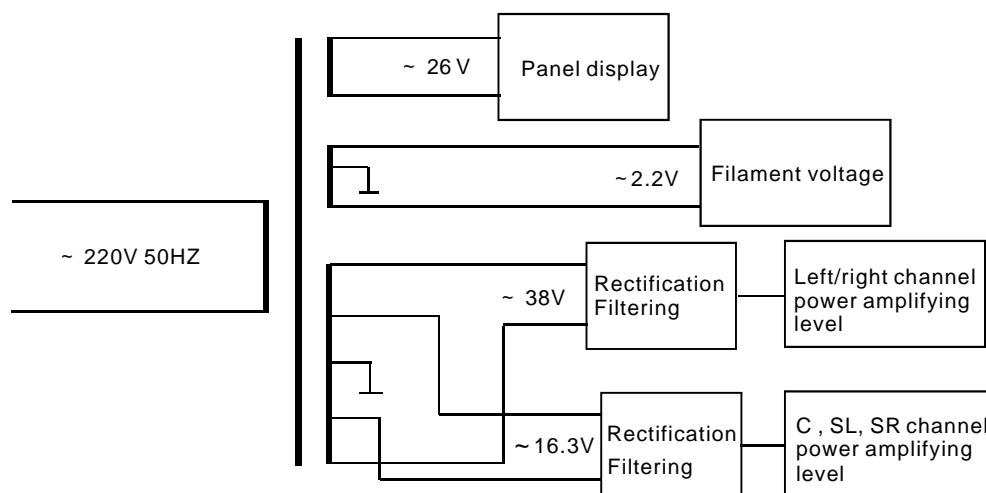

Figure 3.2.4.1 Power block diagram
The function of power board is to provide all kinds of working voltage required by each unit circuit. Shown as in the figure 3.2.4.1 AV321T (RU) adopts large-power round transformer. Centre and surround channel of AV321T (RU) adopt CD1875 and 2 × TDA2052 respectively, TDA2052 is mono channel power amplifying and adopts separate positive/negative power supply.